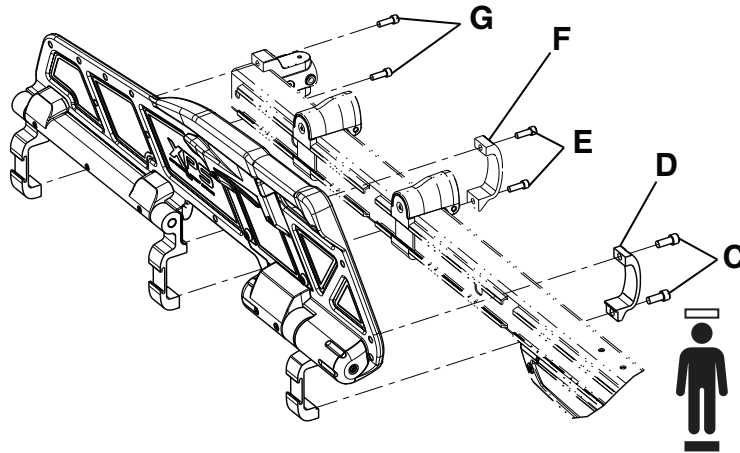

Figure 9 – Remove the siderail assembly
5. Using a 1/4" hex wrench, remove the socket head cap screws (C) that secure the siderail clamp (D) to the ratchet assembly at the foot end of the main assembly (Figure 9). When you reinstall, use a torque wrench to torque both new screws to 22 ± 3.3 ft-lb.
- Using a 3/16" hex wrench, remove the two socket head cap screws (E) that secure the middle siderail clamp (F) to the outer rail assembly (Figure 9).
- Using a 3/16" hex wrench, remove the two socket head cap screws (G) that secure the top and bottom of the base/litter interface bracket to the outer rail assembly (Figure 9).